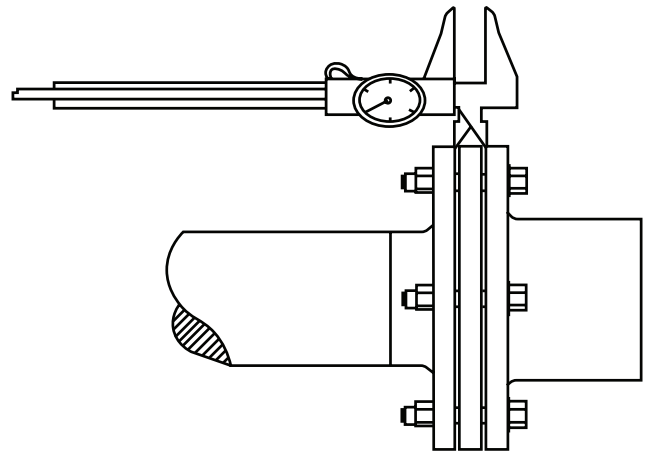

Figure 47 – Axial Misalignment Check with Dial Caliper
14. Check axial misalignment (hub separation) with the dial caliper on both the gear drive side and the motor side (See **Figure 47**).
15. Without rotating the shaft, measure the gap between the shaft flange and the hub flange on both ends. Take four (4) readings around the perimeter at 90° intervals.